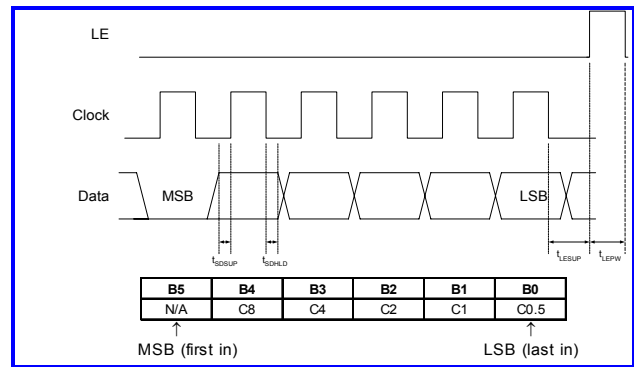

Figure 4. 5-bit 15.5 dB Serial Timing
1. The 5-bit 31 dB part in **serial** mode uses a similar clock/data string. Use Figure 4, noting 6 clocks are required, and five data bits position as shown.
2. The 5-bit 31 dB part in **parallel** mode uses the table in Figure 4. Note data bit pin C0.5 is unused.